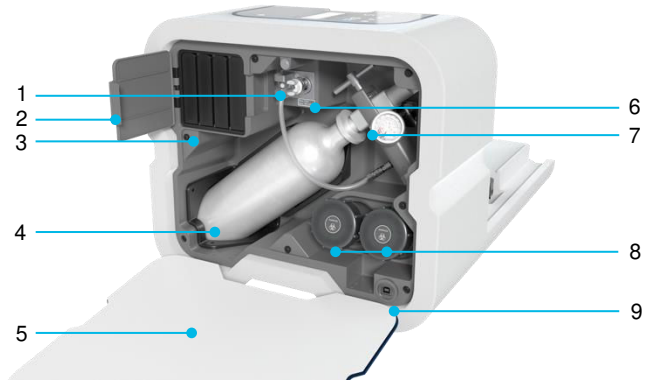

Figure 4: Inside view of the Kidney Assist Transport compartment
- Open the compartment door (figure 4, item 5), by gently pressing on the top, to gain access to the oxygen and battery compartment.
- Open the door of the battery compartment (figure 4, item 2). Place four fully charged batteries (figure 4, item 3). Only use compatible batteries supplied by XVIVO. Check the charge of each battery by pushing the “push” symbol on the battery. Every LED represents 25% capacity.
- Connect the oxygen regulator (figure 4, item 7) to a fully filled oxygen cylinder (figure 4, item 4) by tightening the thread of the regulator by hand. Make sure that the seal of the cylinder has been removed. In addition, check that the valve is clean and has no sign of oil or lubricant. If needed wipe the cylinder clean.
- Medical oxygen can be delivered from the hospital supply, connect an oxygen line to the oxygen connection (figure 4, item 1). Ensure the oxygen flow is set at 0.1 L/min and does not exceed the ratings on the label next to the connector, see figure 11.